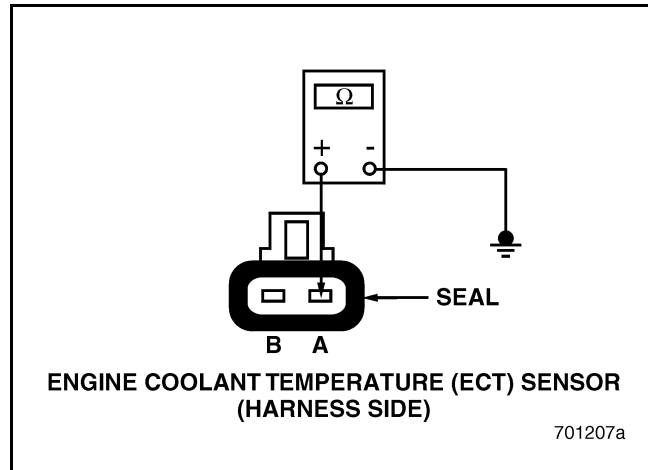

Figure 157
4. Check for continuity between pin A of the ECT Sensor harness connector and a good ground (see Figure 157).